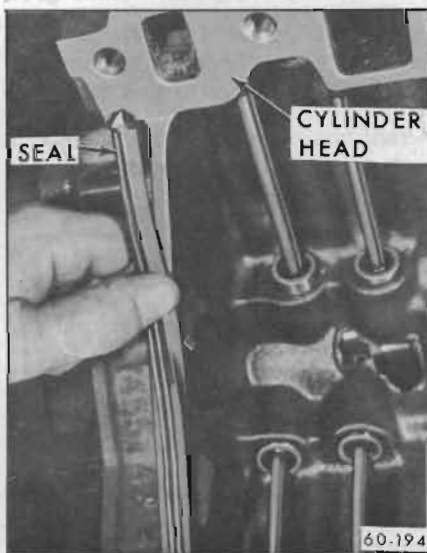

Figure 60-210—Intake Manifold Seal Installation
1. Place new rubber manifold seal in position at front and rear rails of cylinder block. Be sure pointed ends of seal fit snugly against block and head. See Figure 60-210.